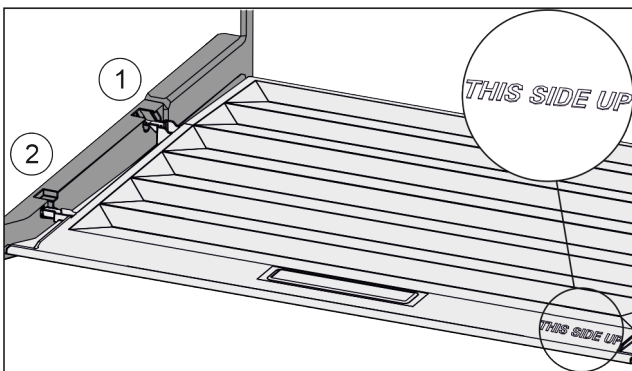

Fig. 72
- ▶ Insert the lip of the cover over the opening of the rear bracket Fig. 72 (1) and click into place Fig. 72 (2).